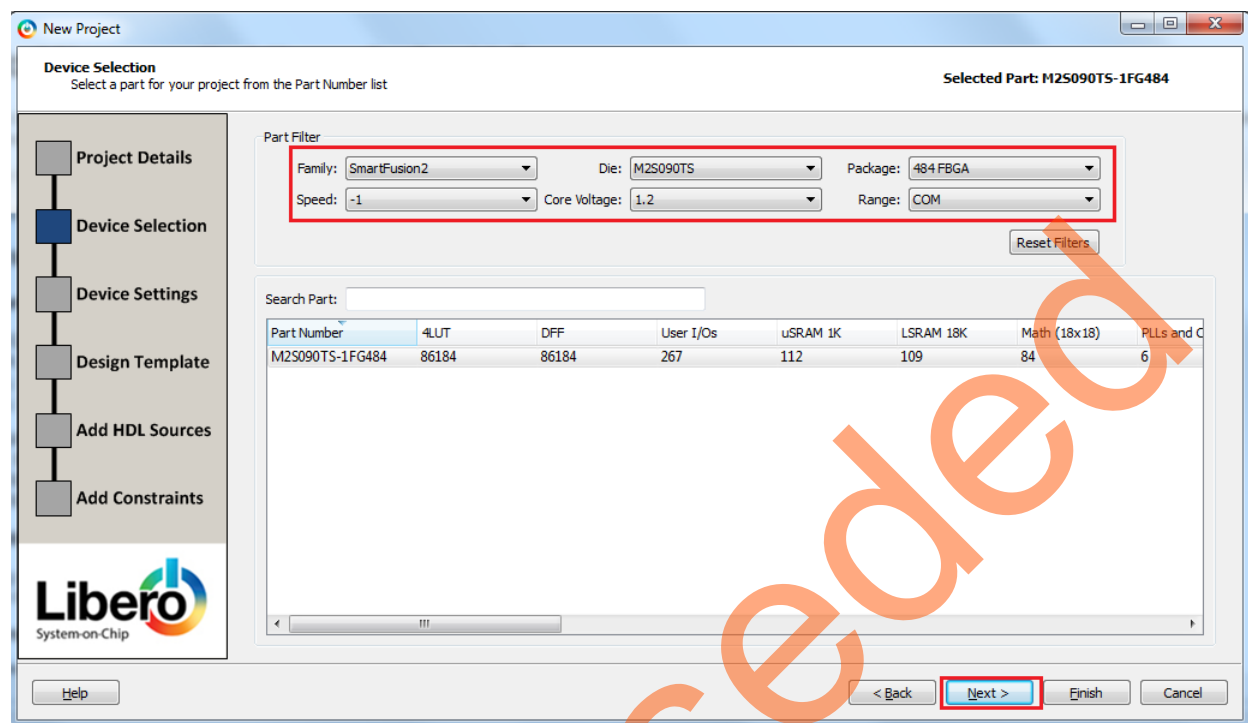

Figure 4 • Device Selection Page
4. Click **Next**. This opens **Device Selection** page as shown in Figure 4.